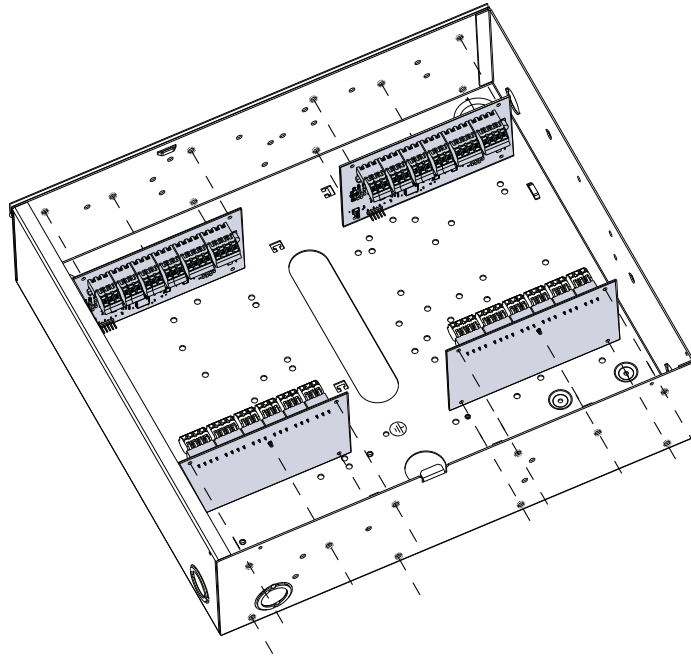

Figure 2-5 HSM3408 in HSC3010C Enclosure
1. Route the AC line through the opening on the bottom of the cabinet and secure using cable tie as shown in figure 2-5.